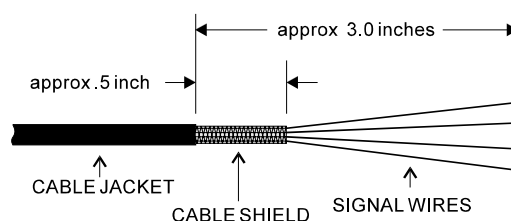

Figure 3
- Strip the sensor cable as shown in Figure 3.